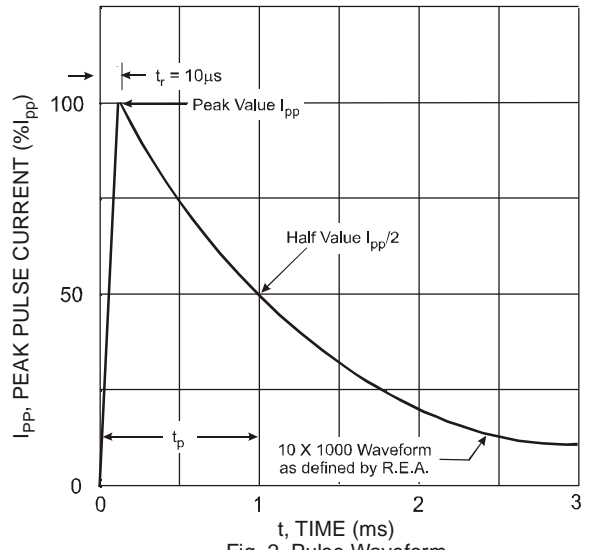

Fig. 2 Pulse Waveform
7. Non-repetitive current pulse per Figure 2 and derate above T_A = +25°C per Figure 2.